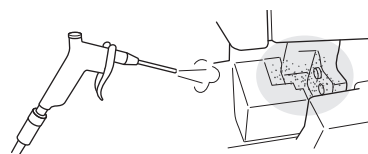

Fig. 34
- (2) Clean away the iron filings attached around the cutter installation area (Fig. 34)